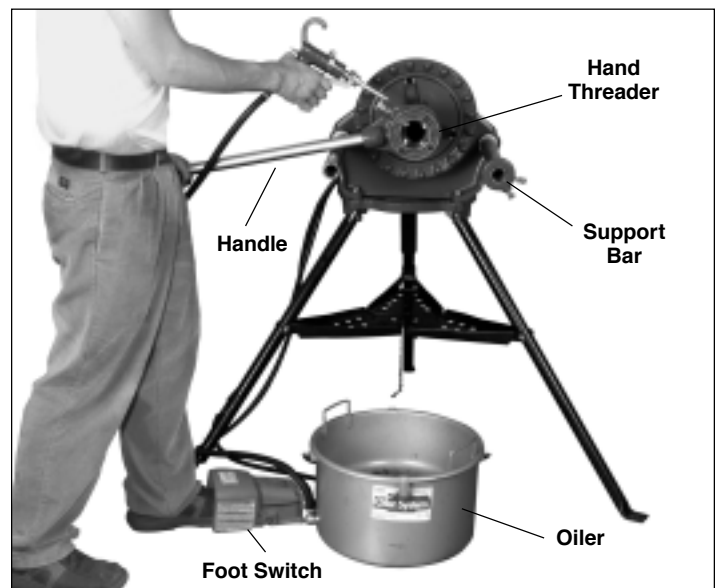

Figure 6
2. Place 06150 Oiler (Figure 6) under threader and apply REED Thread Cutting Oil on pipe end.
**NOTE: THREADER IS AUTOMATIC ONCE DIES ARE ENGAGED. APPLY PLENTY OF OIL (FIGURE 6) UNTIL THREADS ARE COMPLETED.**
**CORRECT OPERATING POSITION FOR CUTTING, THREADING AND REAMING IS TO STAND ON THE SWITCH SIDE OF THE POWER DRIVE, WITH LEFT FOOT OPERATING FOOT SWITCH. (FIGURE 6)**